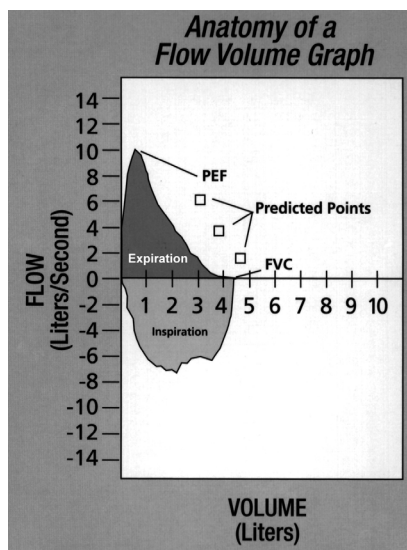

Figure 30: Flow-Volume Graph
Spirometry maneuvers are usually illustrated by means of graphs showing flow rates and volumes during expiration and inspiration. Two types of graphs are used, Flow-Volume (FV) and Volume-Time (VT). A typical Flow-Volume graph is shown in Figure 30. The Flow-Volume graph allows the user to easily evaluate whether the maneuver was poor due to a cough, slow start, poor effort or early termination. In addition, obstructive or restrictive disorders can often be detected by examining the waveform. Additional guidance can be obtained on this subject in the *Introduction to Spirometry Testing* section of this manual starting on page 15.